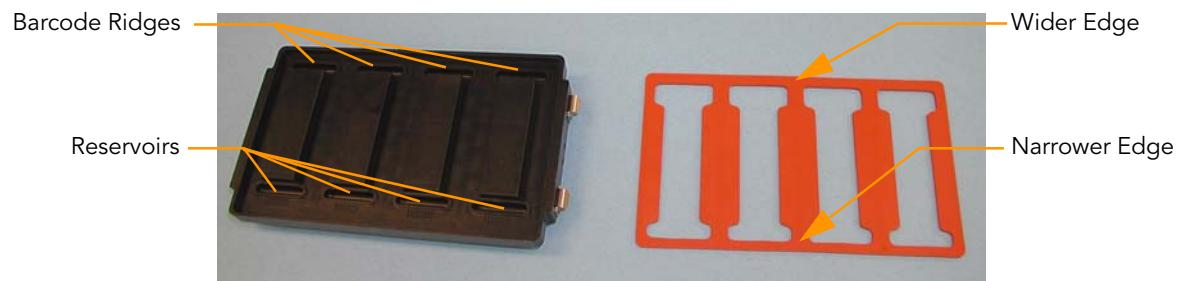

Figure 110 Hyb Chamber and Gasket
a. Match the wider edge of the Hyb Chamber gasket to the barcode-ridge side of the Hyb Chamber (Figure 110).